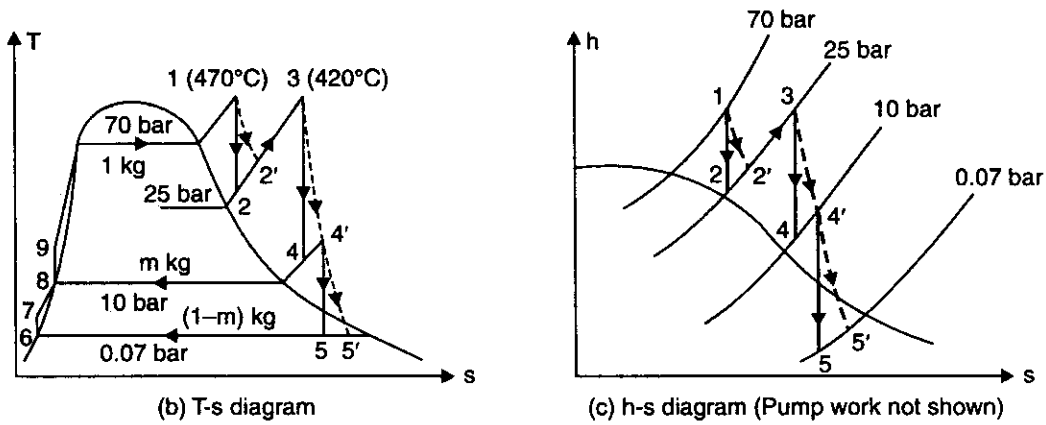

Fig. 3.155
**Solution.** The schematic arrangement of the plant is shown in Fig. 3.155 (a) and the processes are represented on  $T$ - $s$  and  $h$ - $s$  diagrams as shown in Fig. 3.155 (b) and (c) respectively.